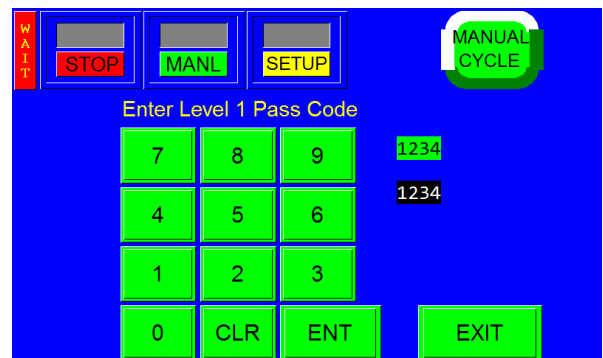

Figure 3-36
The screen is protected from access with a Level 1 pass code. The pass code is set by default (from the factory) to 1001. See Figure 3-36. This code can and should be changed when the system is put into operation. See section 3.37 for Pass Code Setup.
1. Level 1: This is the highest-level pass code which prevents operators from accessing the Technical Assistance functions of the machine. The default pass code, when shipped from the factory, is 1001. See Figure 3-36.